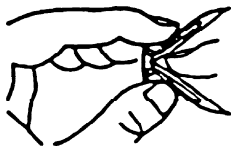

Figure 9 - Folding Anchor
2. Fold wall anchor as shown in Figure 9 below.